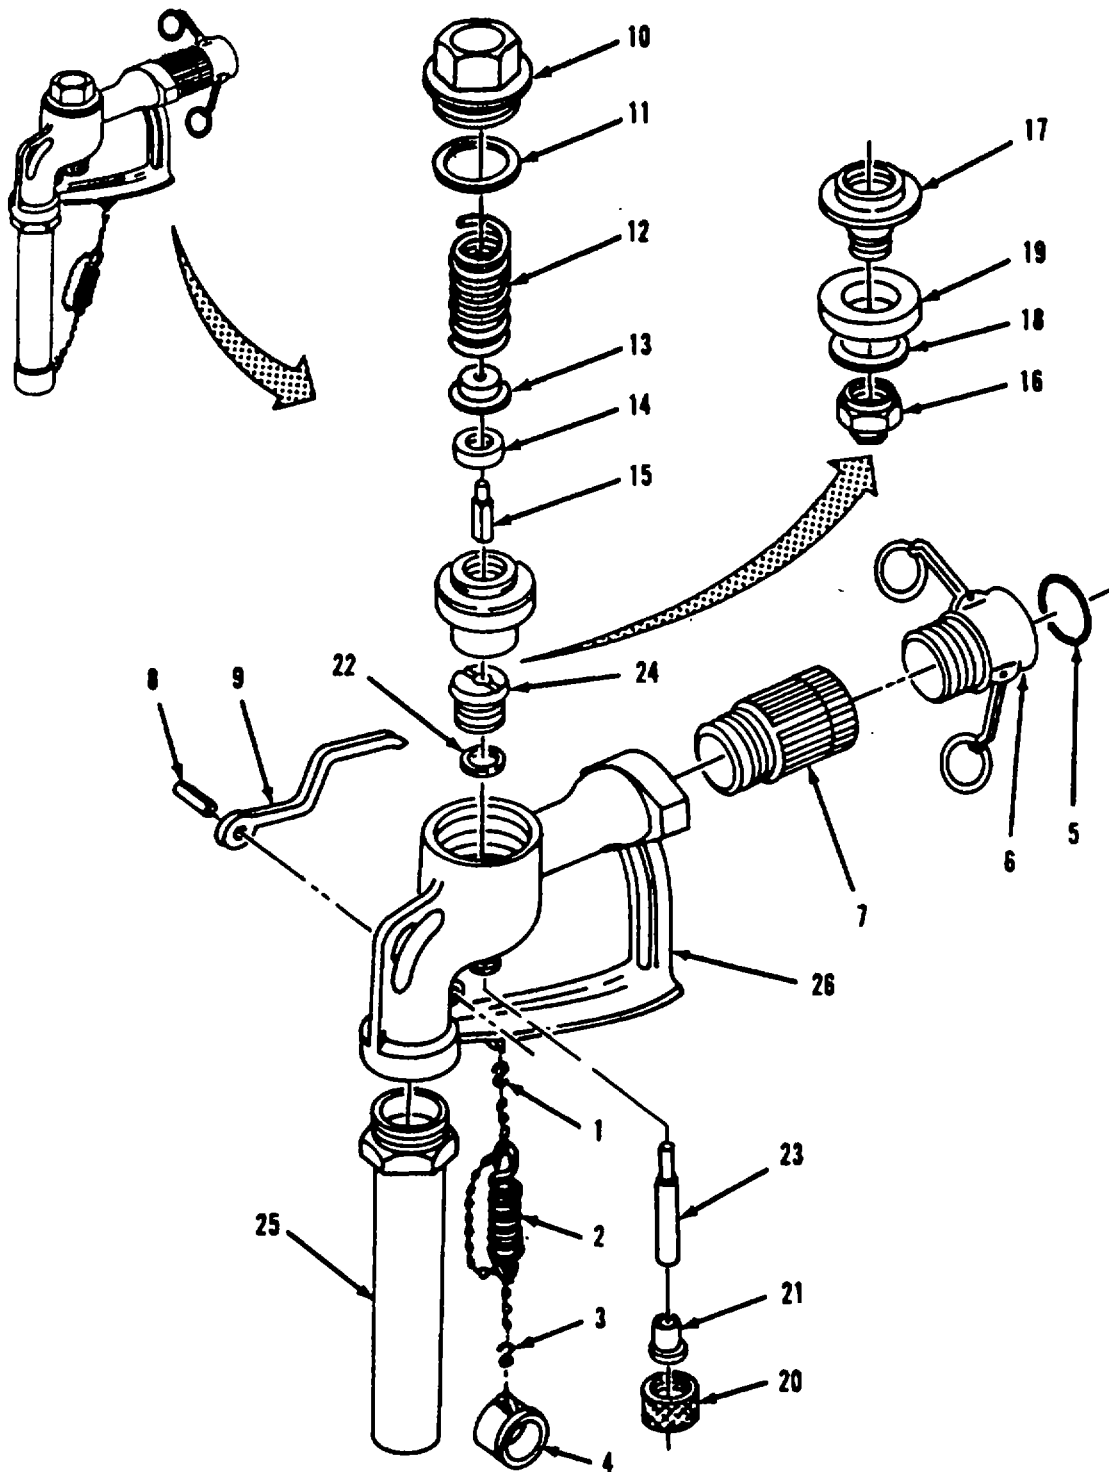

Figure 42. Distribution Nozzle (1 1/2-Inch) Disassembly
- a. Disassembly. Refer to Figure 42.
- (1) Disconnect S-hook (1) from body (26).
- (2) Remove S-hook (1) from chain and spring (2).
- (3) Remove tube cap (4) and S-hook (3) from chain and spring (2). Disconnect S-hook from tube cap.
- (4) Remove gasket (5) from female coupling (6).
- (5) Remove swivel (7) and female coupling (6) from body (26).
- (6) Unscrew female coupling (6) from swivel (7).
- (7) Drive out groove pin (8) and remove handle (9) from body (26).